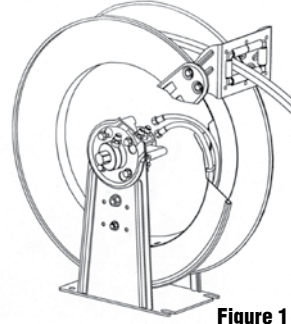

Figure 1
3. Using a wrench, firmly hold on to fittings on shaft while tightening the hose connector (see figure 1).